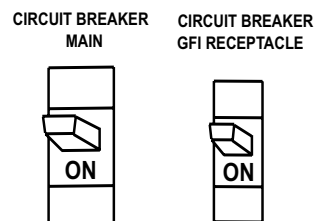

Figure 49. Main and GFCI Circuit Breakers
13. If there are no abnormal problems shown on the MPEC LED display, turn both the MAIN and GFCI circuit breakers to their ON position (Figure 49).